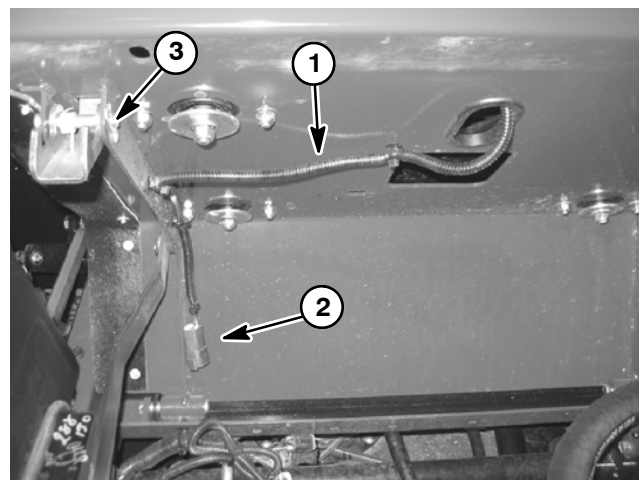

Figure 49
The seat switch is normally open and closes when the operator is on the seat. If the traction system or PTO switch is engaged when the operator raises out of the seat, the engine will stop. The seat switch and its electrical connector (Fig. 49) are located directly under the seat.
4. Disconnect machine wire harness electrical connector from the seat switch harness electrical lead under the operator seat (Fig. 49).